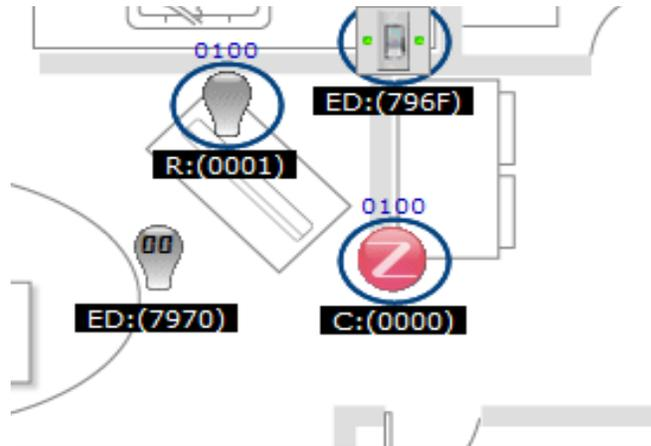

Figure 4-19. Dimmable Light Joining the Existing Network
1. Briefly press SW1 on the board running the Dimmable Switch application so that it joins the network used in the previous steps. As shown in Figure 4-19, the Dimmable endpoint icon appears after a few seconds on the ZeD main window.